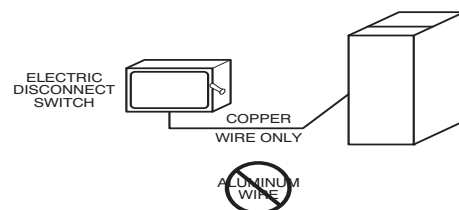

Fig. 33 – Field-Supplied External Electrical Box on Furnace Casing A190279
1. Drill two (2) 1/8-in. (3 mm) pilot holes through the dimples in the furnace casing near the 7/8-in. knock-out on the side of the casing. Do not remove the knock-out in the side of the casing.
9. Connect field power and neutral leads to furnace power leads inside the external electrical box as shown in Fig. 33.